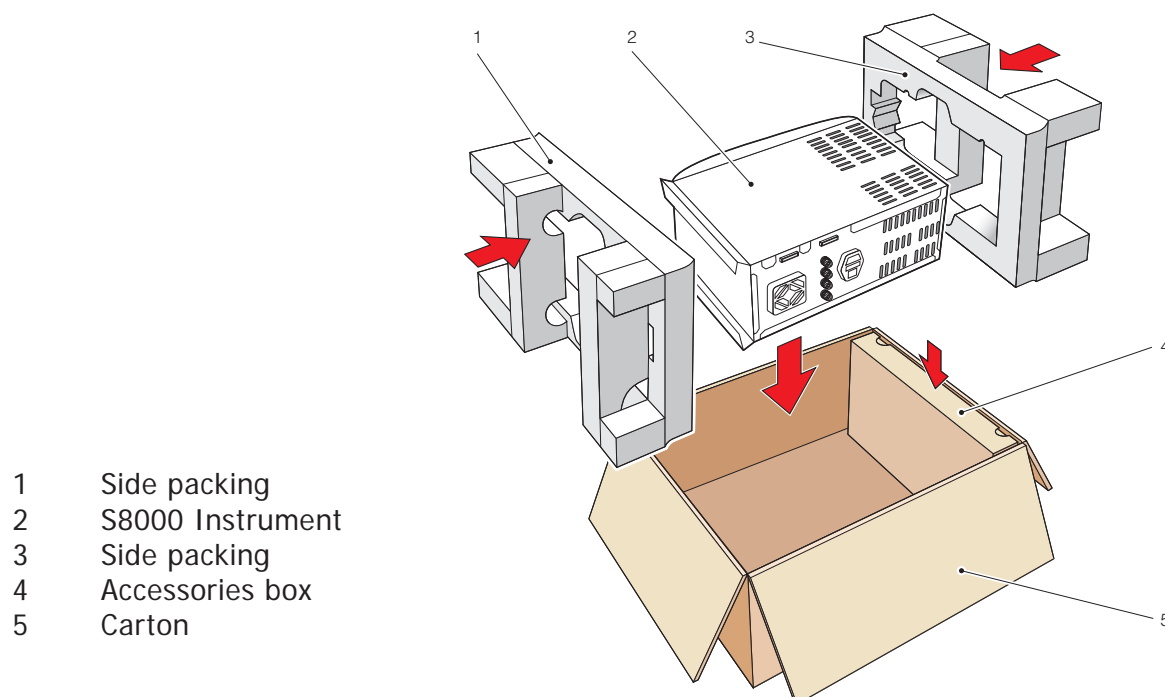

Figure 42 Instrument Packing Details
8. Pack the instrument in its original case as shown in *Figure 42*. **NOTE: The accessories should be packed in the box (4). Unless returning for repair, it is not necessary to return either the microscope or the analog and alarm connectors. All cables and the remote PRT probe (if supplied) should be returned for checking.**